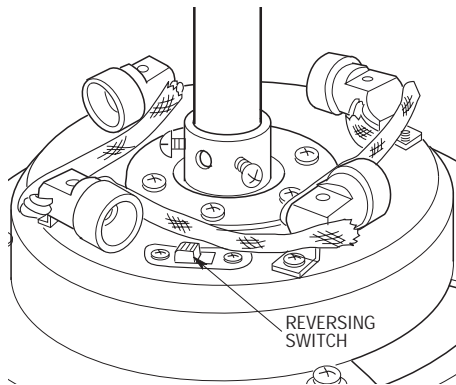

Figure 16
- 6. If airflow is desired in the opposite direction, turn the fan off and wait for the blades to stop turning. Then slide the reversing switch (on the motor and housing upright assembly) to the opposite position (Figure 16) and turn the fan on again. The blades will turn in the opposite direction and reverse the airflow.